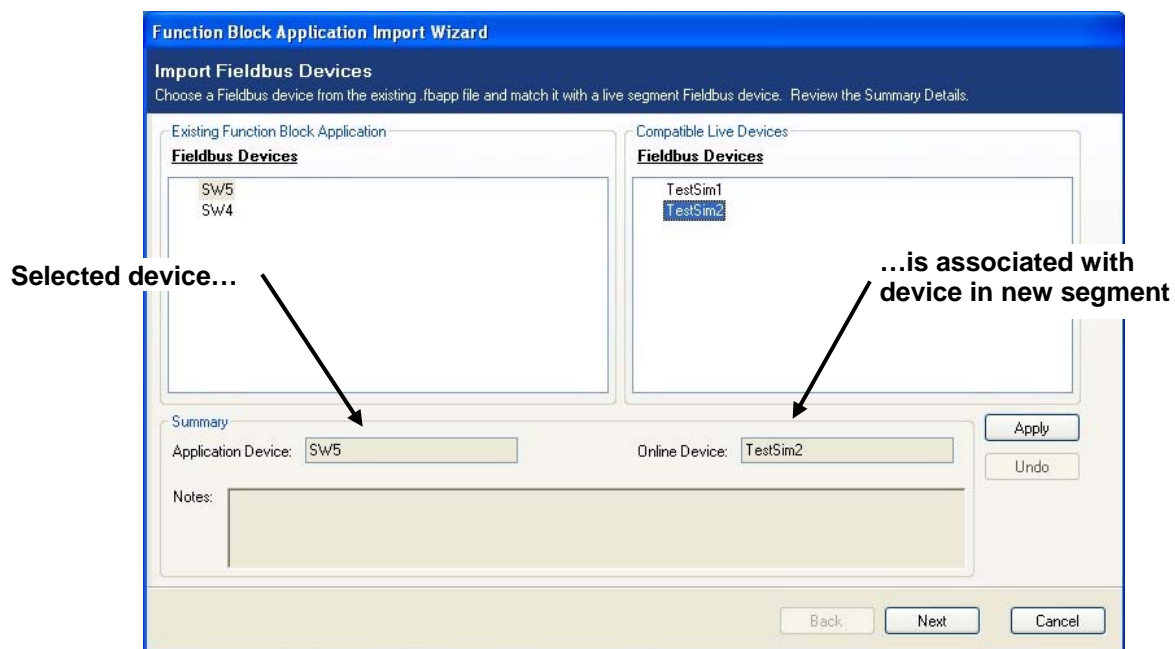

Figure 4-29. Import Wizard - Fieldbus Devices screen (Defined)
**Note:** The right-hand pane of *Figure 4-29* shows devices *TestSim1* and *TestSim2*. Unless you know that *TestSim1* is a Rosemount 848T temperature transmitter (for example), that tag is too vague to be helpful. When you commission devices, give them tags that uniquely describe their location or function.
*Figure 4-29* shows two devices in the application and two devices in the “target” segment. Understanding this one-to-one device correspondence is critical to a successful import.